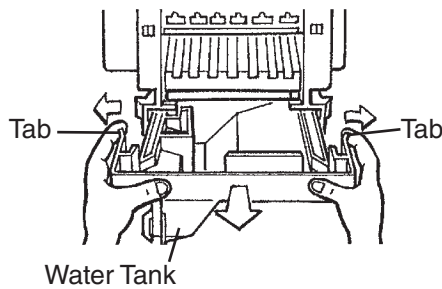

Fig. 38
5. Spread out the tabs to unlock the water tank, then slide it out. See Fig. 38.